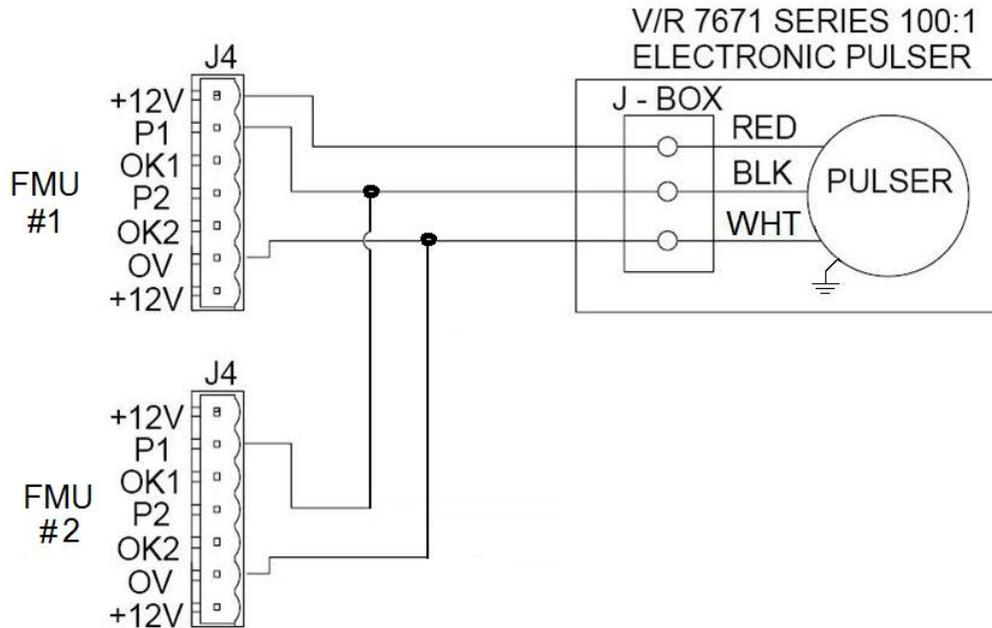

Figure 4-26. Redundant FMUs, One Dispenser, One Pulser
Applications have been requested for redundancy where two FMUs connect to one dispenser. When doing so, caution must be used in making pulser connections. See Figure 4-26. Only one FMU may be used as the +12V power source to a pulser, but both must have a common 0V. Power from two different FMUs or power sources to a single pulser may result in damage to the FMUs and pulser. Power from either source will feed back to the other source and may result in damage to both FMUs and, possibly, the pulser. DC commons/grounds (0V) from both sources must be joined (common) for pulses to be detected by both FMUs. The FMU AC ground cannot be used for a DC common/ground.
- Indoor Receipt Printer** (see Figures 4-26 and 4-27 for connections). The indoor receipt printer requires connection to an I/O Silver Board having part numbers 203610, 203629, or 221813. A part number 972A0102 cable is connected between J2 RECEIPT PRINTER on the Satellite I/O Control Board, and JP11 DIRECT CONNECT on the I/O Silver Board.